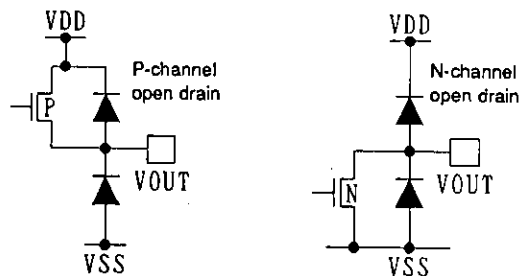

Figure 11 Segment Pin Open Drain Circuits
• When n-channel open drain output ports are used (See figure 11.)